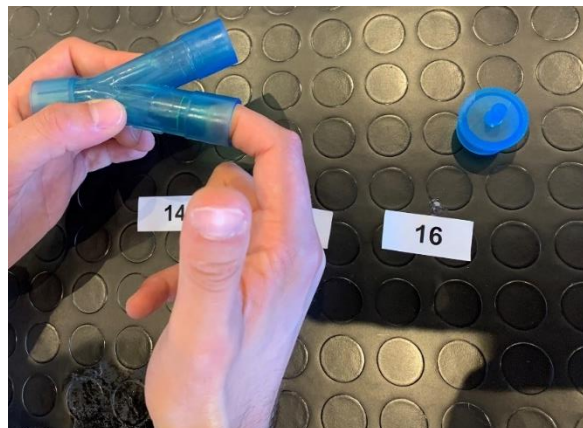

Figure 4.27: Assembling the ABU Y-connector part 3
- 20- Push the ABU Y-connector one-way valve (15) as far as possible inside the ABU Y-connector (14). See Figure 4.27.